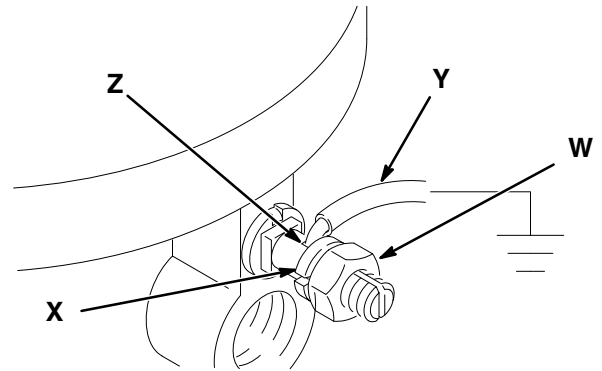

Fig. 1
1. *Pump (for pumps without pre-installed ground wire):* use the ground wire and clamp (supplied). See Fig. 1. Loosen the grounding lug locknut (W) and washer (X). Insert one end of the ground wire (Y) into the slot in lug (Z) and tighten the locknut securely. Connect the other end of the wire to a true earth ground.